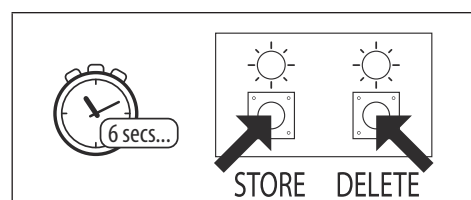

Fig. 18
1. Press and hold down both the store and delete buttons for approximately 6 seconds until both the green and red LED's switch **OFF**, see **Fig.18**.